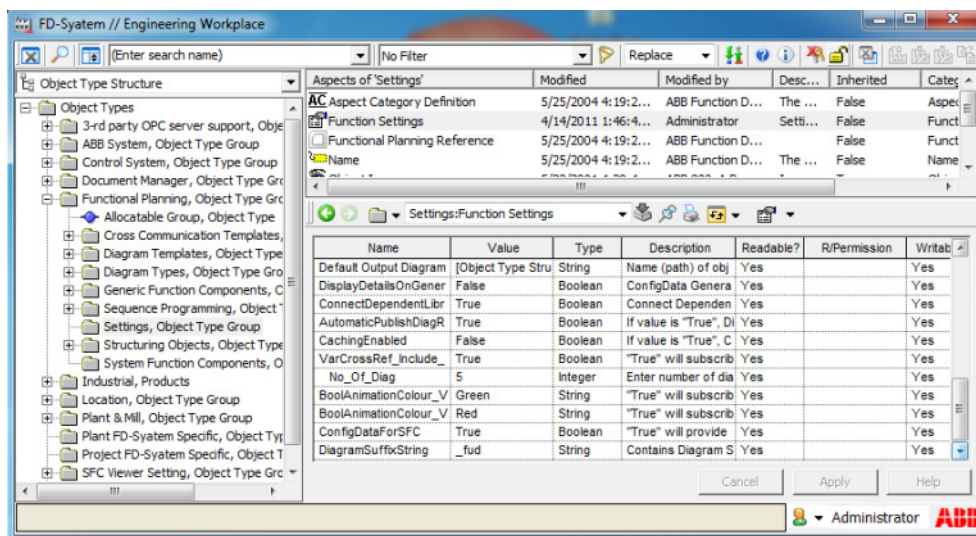

Figure 13. Function Settings with ConfigDataForSFC property
1. Open the **Object Type Structure > Function Planning > Settings > Function Settings** aspect (refer to Figure 13).
To ensure that naming conventions are followed for diagrams, the property DiagramSuffixString, available in **Object Type Structure > Function Planning > Settings > Function Settings** aspect, can be used (refer to Figure 13). Set the required suffix in the Value column. This suffix can be used as reference while creating diagrams.